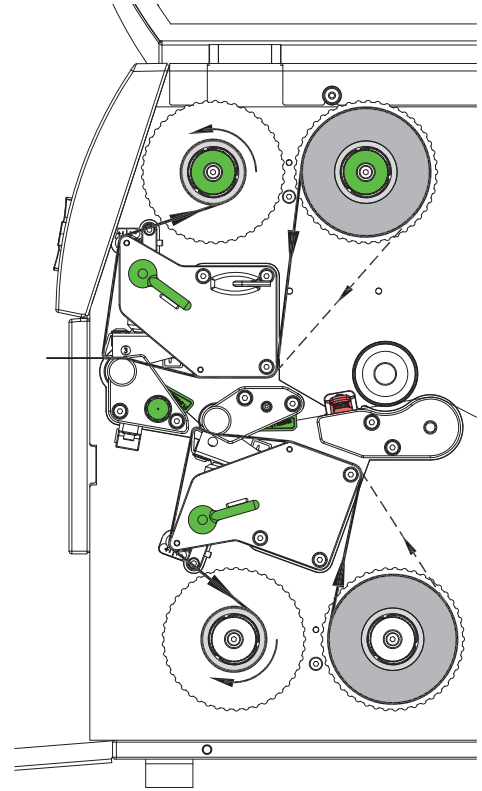

Fig. 12 Transfer ribbon feed path
6. Slide suitable transfer ribbon core (4) onto the transfer ribbon take-up hub (5). Position and secure it in the same way like the supply roll.
7. Guide transfer ribbon through the print unit as shown in Fig. 12.
8. Secure starting end of transfer ribbon to middle of the transfer ribbon core (4) with adhesive tape. When using cores which are wider than the transfer ribbon use the scale (7) at the printhead retainer to adjust the path of the ribbon. Ensure counterclockwise rotation direction of the transfer ribbon take-up hub.
9. Turn transfer ribbon take-up hub (5) counterclockwise to smooth out the feed path of the transfer ribbon.
10. Turn lever (6) clockwise to lock the printhead.
11. Open the flap (9) and load transfer ribbon to the lower print unit (8) in a similar way. All previous statements of direction apply contrariwise excepting the turning of the knobs.